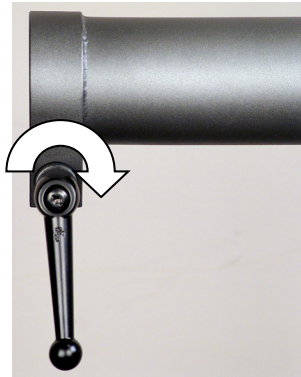

Figure 8-9. Tighten the Column Arm Locking Handle
- Step 6. Turn the column arm locking handle clockwise until it is tightened all the way (Figure 8-9).